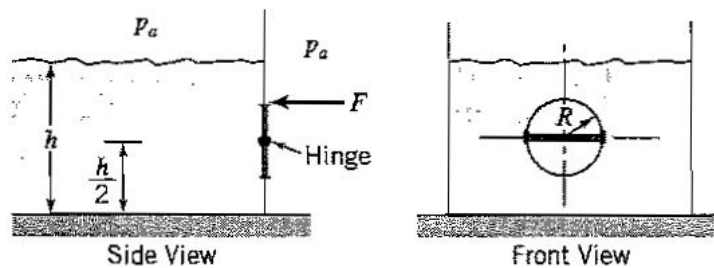

Figure P2.99
2.99 A circular gate of radius R is mounted halfway up a vertical dam face as shown in Figure P2.99. The dam is filled to a depth h with water, and the gate pivots without